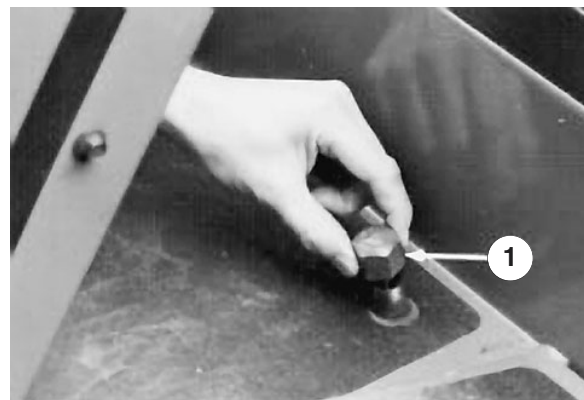

Figure 4
2. Remove the dipstick cap (Fig. 4) from the filler neck and wipe it with a clean cloth. Screw the dipstick cap finger-tight onto the filler neck; then remove it and check the level of fluid. If the level is not within ½ inch (13 mm) from the groove in the dipstick (Fig. 4), add SAE 10W-30 engine oil, or, if used, automatic transmission fluid to raise the level to groove mark. Do not overfill.